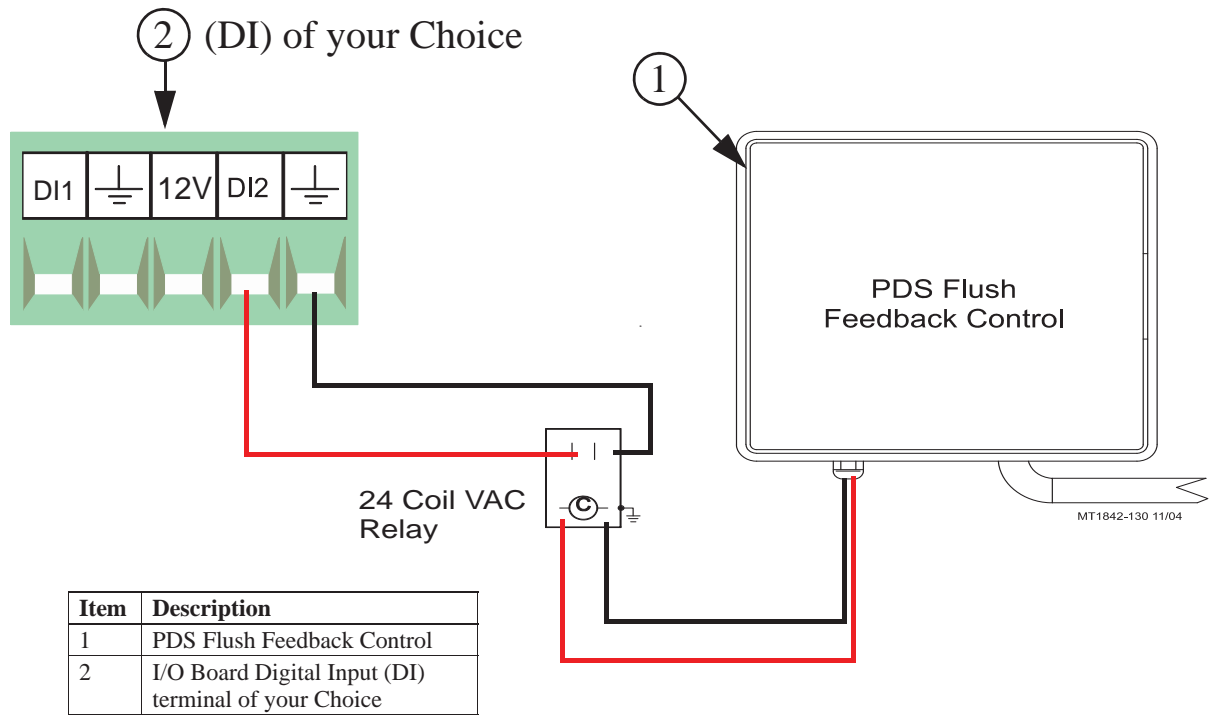

Figure 33. PDS Flush Feedback Wiring
If a PDS Drinker Control is being used to automatically flush water lines, then the Control can ignore pulses coming from the Water Meter(s) while flushing is taking place. If this option is used then a dry contact relay must be connected to one of the Digital (DI) Inputs of the IO Board. The coil of the relay should be energized whenever the Control begins its flushing sequence. See **Figure 33 below** for connecting the relay to the IO board of the Control.